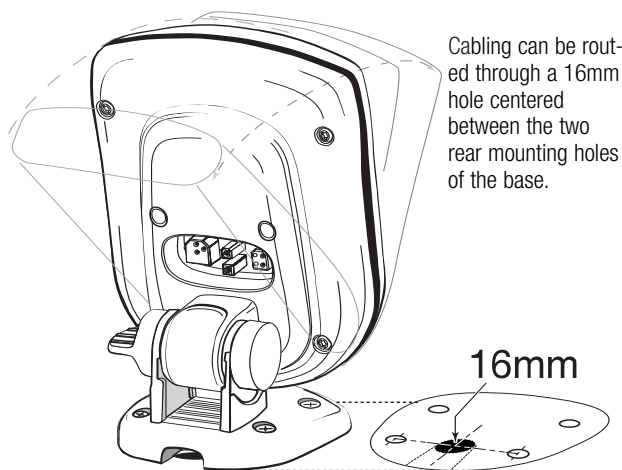

Figure 9
4. Drill a 16mm ($\frac{5}{8}$ ") hole at the location where the cables pass through the mounting surface. If access is possible underneath mounting surface, drill the hole so the mount base forms a hole cover. See Figure 9 for location of cable hole under the mount.